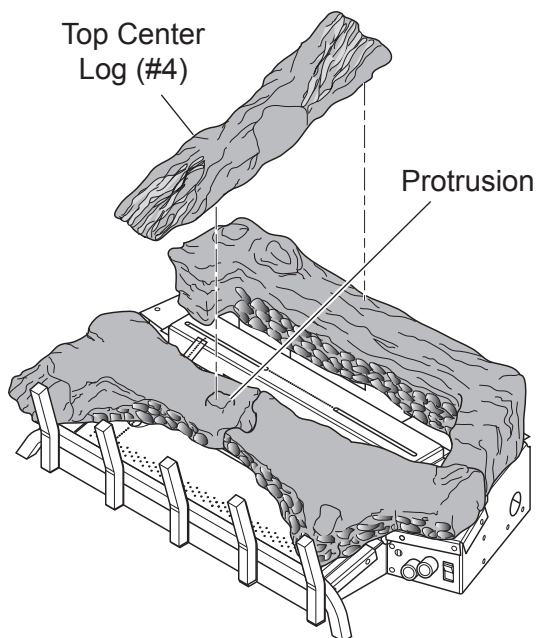

Figure 33 - Installing Center Top Log (#4)
4. Lay back end of center top log (#4) on the center of back log. Position front end of center top log (#6) on protrusion of bottom left log. *See Figure 33.*